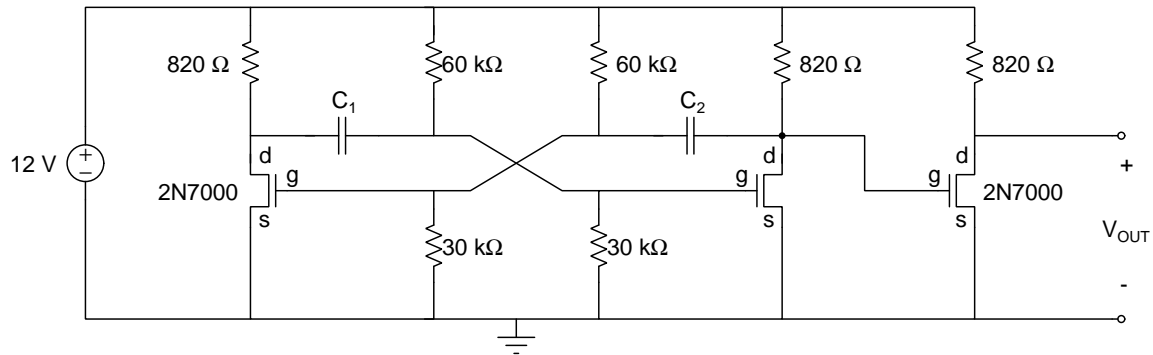

Figure 4: Astable multivibrator oscillator circuit of **Figure 2** with an added 2N7000 transistor used as an output buffer.
8. The shape of the output signal can be improved by reducing the amount of capacitance on the output node. Add a third transistor to the circuit, to act as a buffer, as shown in Figure 4. This third transistor will invert the output signal. Hence, you will need to switch capacitors  $C_1$  and  $C_2$  to maintain the same duty cycle at the output.